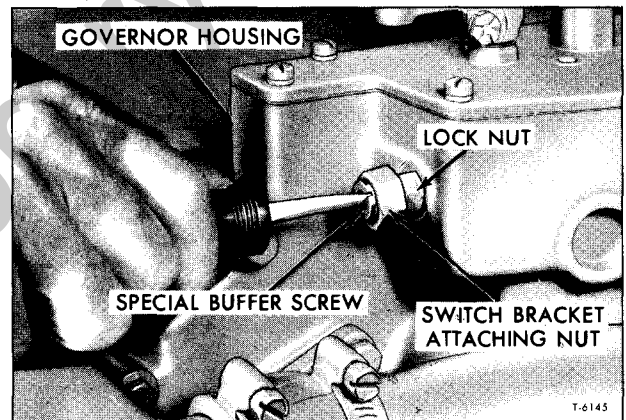

Figure 44—Buffer Screw Installation
5. If necessary to replace and/or adjust buffer screw, use screwdriver as shown in figure 44 to turn buffer screw after loosening lock nut. Note that attaching nut and lock nut must be in position on buffer screw before the buffer screw is threaded into governor housing.